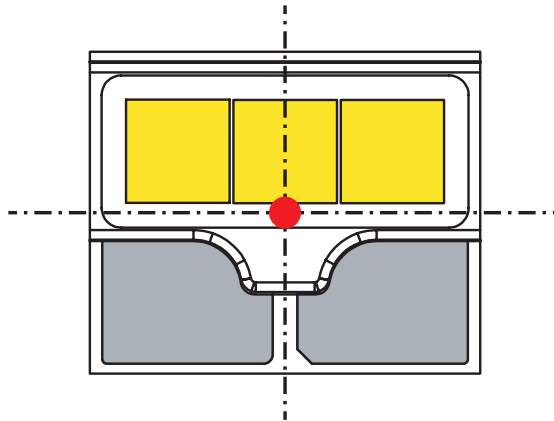

Figure 11. Pick-up area for LUXEON Alticon TopContact
1. The pick-up area, for a full area nozzle, is defined in Figure 11.